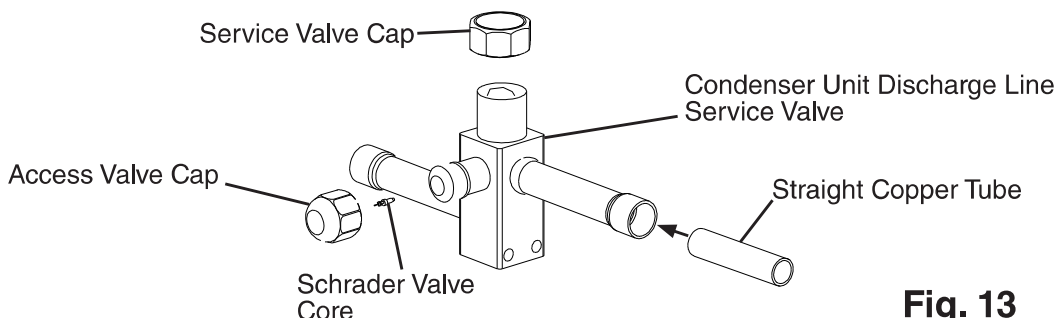

Fig. 13
- a) Remove the remaining straight copper tube from the icemaker accessory bag and place it in the condenser unit liquid line service valve. See Fig. 13.